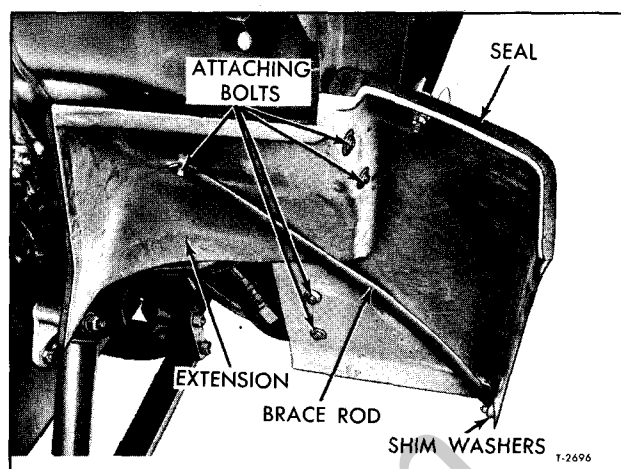

Figure 16—Fiberglass Hood Fender
2. Referring to figure 16, remove five bolts which attach fender extension to the cab and extension support bracket. Remove the extension assembly.
For proper alignment with hood, add or remove shims as shown in figure 16.